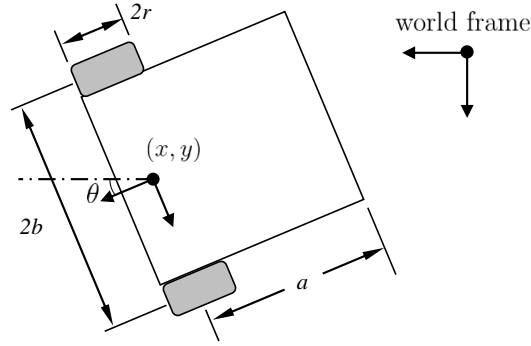

Figure 1: Definition of the robot dimensions and robot frame. Robot forward direction matches the x axis of the robot frame.
- $b = 0.225\text{m}$ ,  $r = 0.037\text{m}$ , and  $a = 0.3\text{m}$ : robot dimensions as shown in Figure 1.